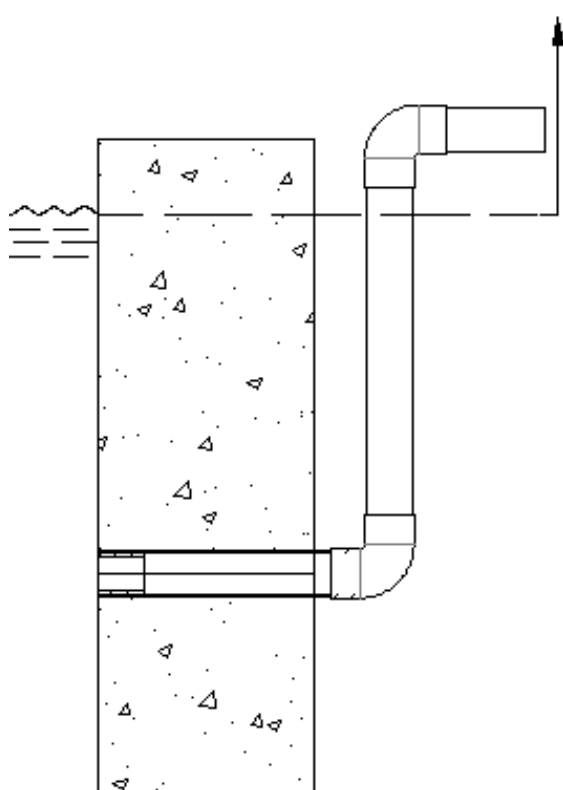

Fig. 5
2. The D63 adapter(or wall conduit) must be extended with a cable conduit the length of which remains above the maximum level of the swimming pool or spa (Fig. 5).